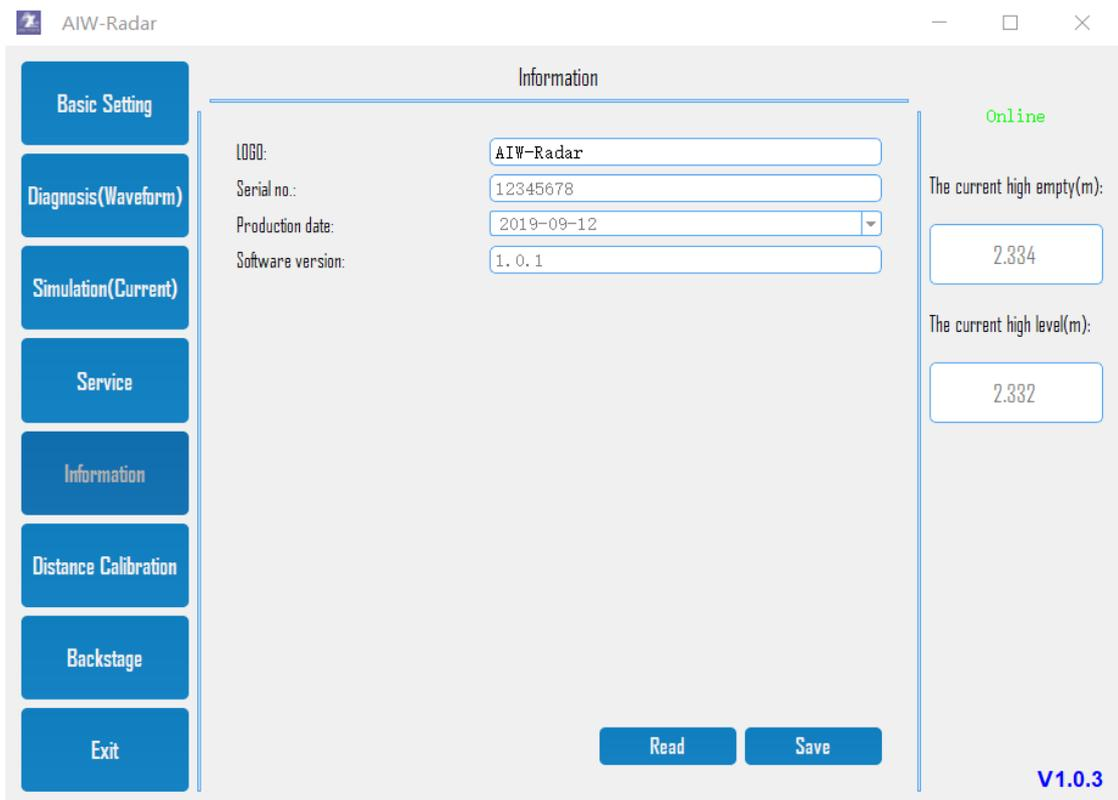

Figure 7.
- Click on the "Information" button on the left side of the main interface, and the main interface will display equipment-related production information. It is suggested that this parameter be set only in the production process. As shown in Figure 7.